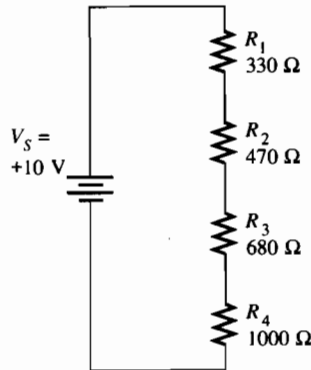

Figure 8-4
2. Connect the resistors in the series circuit illustrated in Figure 8-4. With the power off, measure the total resistance of the series connection and verify that it agrees with your computed value.